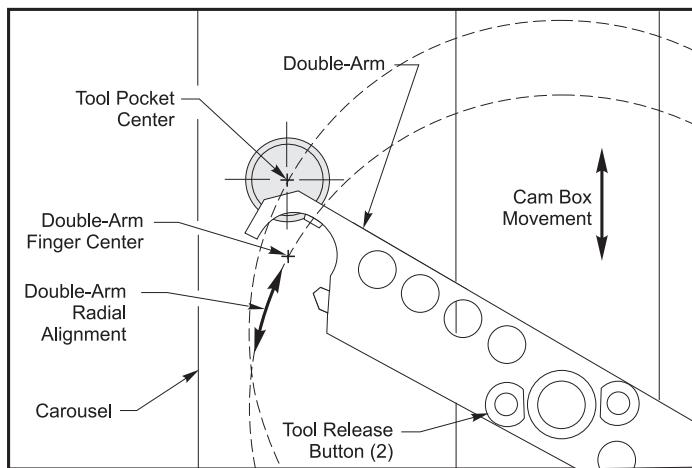

Figure 3-69 Cam Box / Double Arm Alignment, top view.
8. Place an empty tool holder without a pull stud into the double arm end beneath the tool pocket. Depress the tool release button on top of the double-arm and insert a tool holder. Slightly push the double-arm in the clockwise direction to remove backlash in the drive assembly. Refer to Figure 3-69.
10. In order to adjust the radial alignment of the tool pocket holder to the double arm, loosen the lock ring SHCS and adjust the double-arm. Refer to Figure 3-69.
17. Press the ATC FORWARD button until the arm lowers and is parallel to the x-axis. Insert a short tool holder into the double arm by pressing the tool release button located near the shaft. Refer to Figure 3-69.